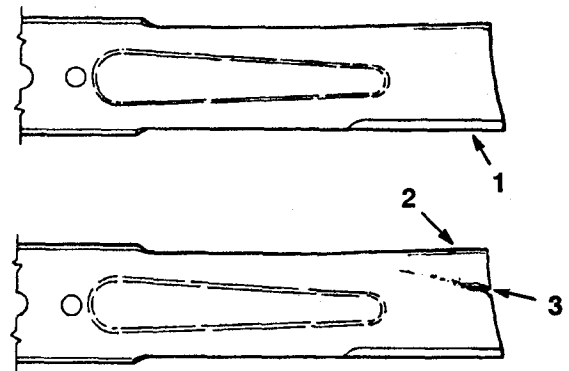

Figure 34
2. Inspect the cutting edges (Fig. 34). If the edges are not sharp or have nicks, remove the blade(s) and sharpen them; refer to Sharpening the Blade(s), page 33.
3. Inspect the blade(s), especially the curved area (Fig. 34). If you notice any damage, wear, or a slot forming in this area (Fig. 34), immediately install a new blade.